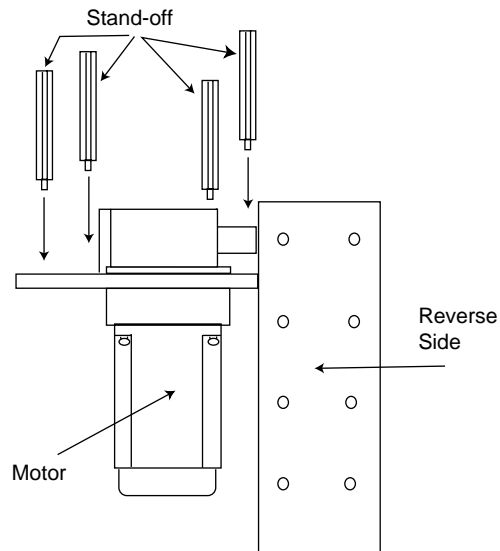

Figure B-11. Stand-off Installation
17. Install the four stand-offs (see Figure B-11).